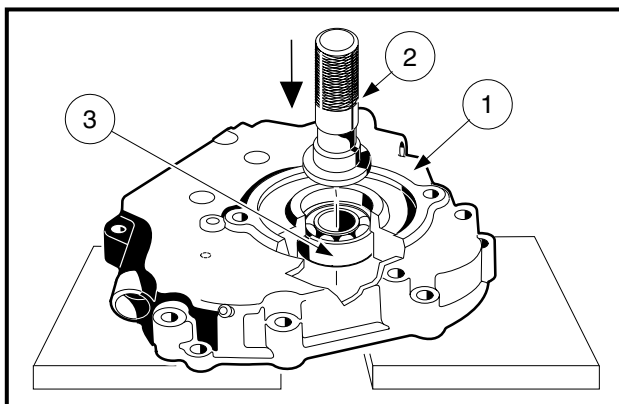

Figure 2-84 Ball Bearing Removal
2. Place the crankcase cover (1) on a bench with its outside up (gasket surface against bench) (**Figure 2-84, Page 2-36**).
3. Use a bearing driver (2) (part of Bearing Driver Kit, CCI P/N 1016416) to drive out the ball bearing (3).